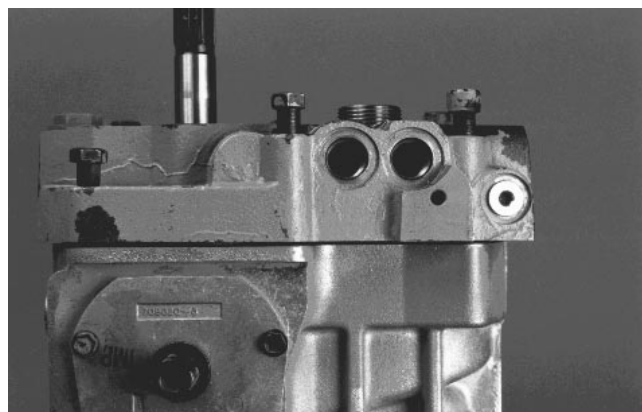

Figure 75
20. Install center section with valve plates onto transmission housing (Fig. 75).